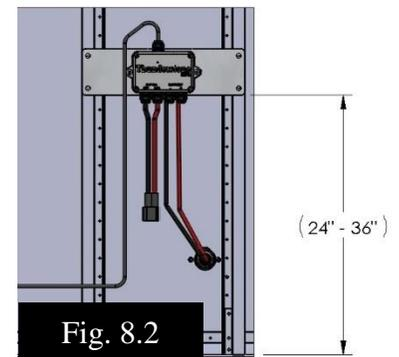

Fig. 8.2
3. Choose a location inside the nose of the trailer between two Z-posts above the power receptacle so that all wires can reach the junction box refer to fig. 8.2.